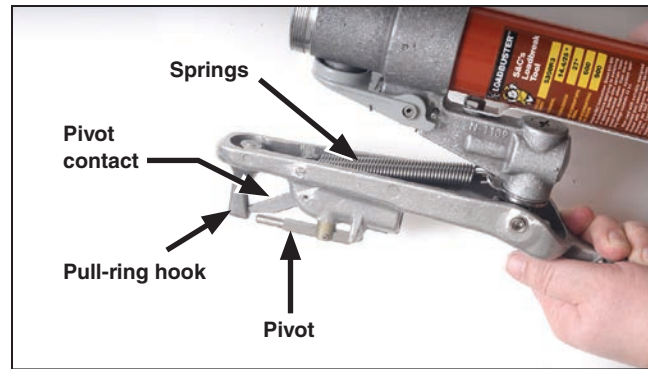

Figure 25. Inspect the hook frame attachment assembly.
STEP 21. Inspect the hook frame attachment assembly. Look for excessive burning or pitting on all contact surfaces on the hook frame attachment assembly. Make sure the pull-ring hook is straight and the spring in the pivot contact is working properly. The spring in the pivot should allow movement in the same direction as the pivot contact. The pivot also should move freely side to side. Replace the hook frame attachment assembly if it is damaged. See Figure 25.